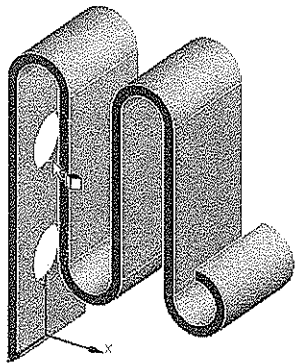

Figure 9-58 Selecting the circular faces
11. Select both the circular faces, refer to Figure 9-58.